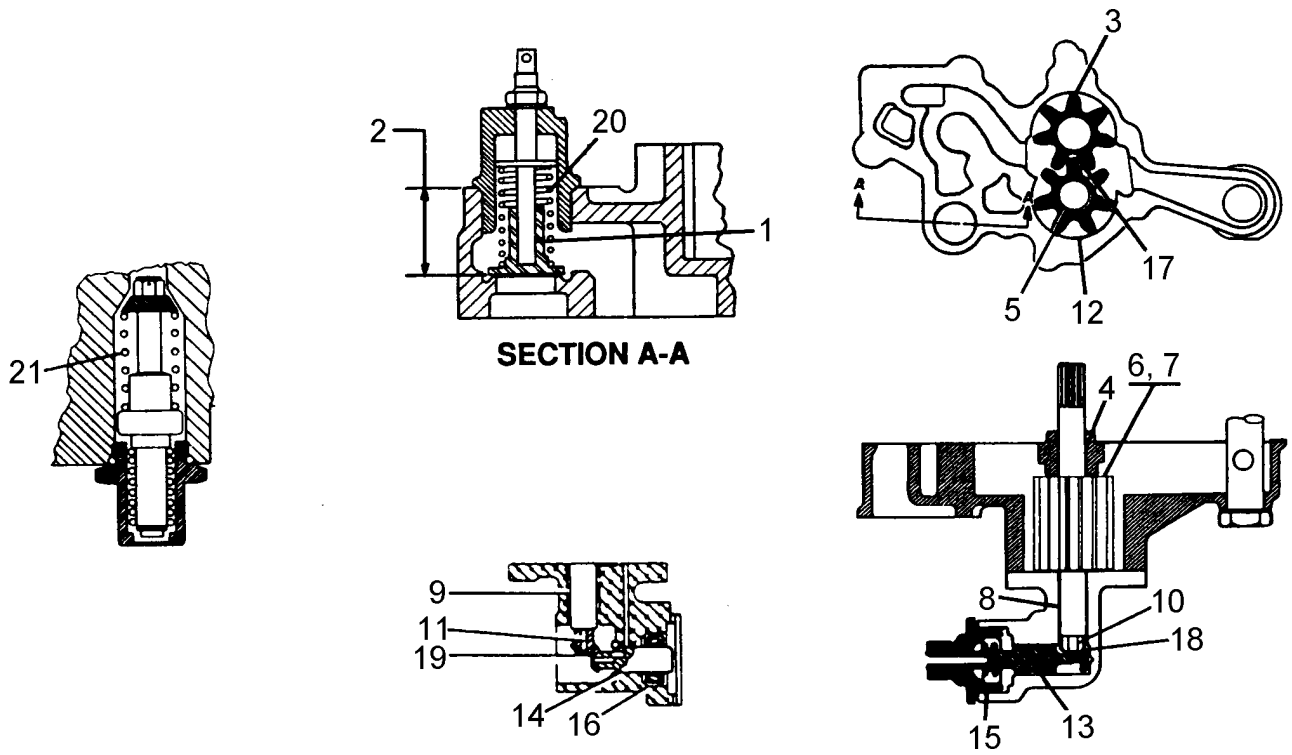

Figure 18-7
After the refacing procedure, the depth from the top of the oil pump housing to the seat face must not exceed the specified limit item (2) in Figure 18-7," Lubrication System Service Limits. "Oil pump housings exceeding specified limits must be discarded.